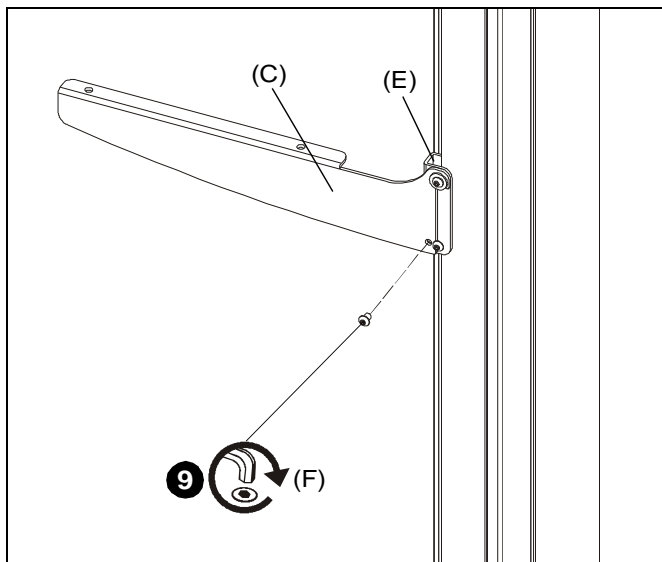

Figure 6
9. Install 1/4-20 x 3/8" button head cap screw (F) into lower front hole to secure shelf support (B or C) to adapter bracket (E). (See Figure 6)